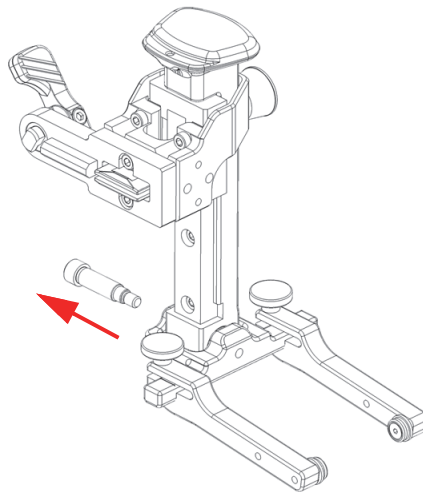

Figure 2-22 Removal of yoke pivoting beam screw
4. Remove the screw of the yoke pivoting beam with a 2.5 mm hex key (Figure 2-22 on page 52).